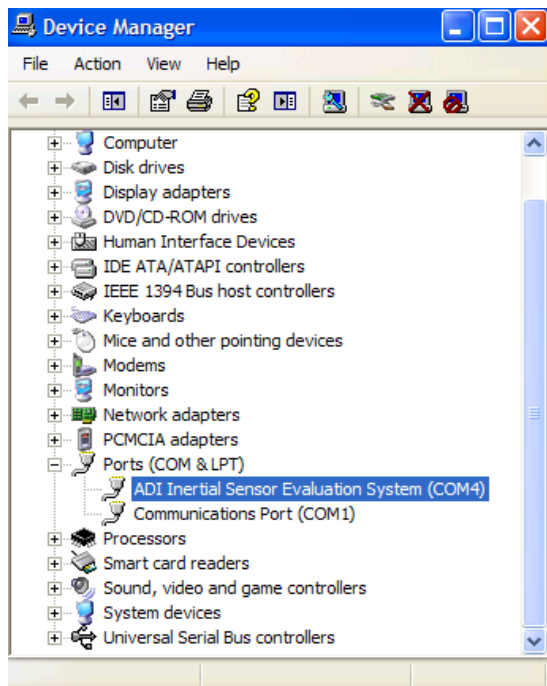

Figure 6. Device Manager Showing the COM Port Number
3. Select **Device Manager**, expand the **Ports (COM & LTP)** menu item as shown in Figure 6. **ADI Inertial Sensor Evaluation System** should be listed with an assigned COM port number in parenthesis.